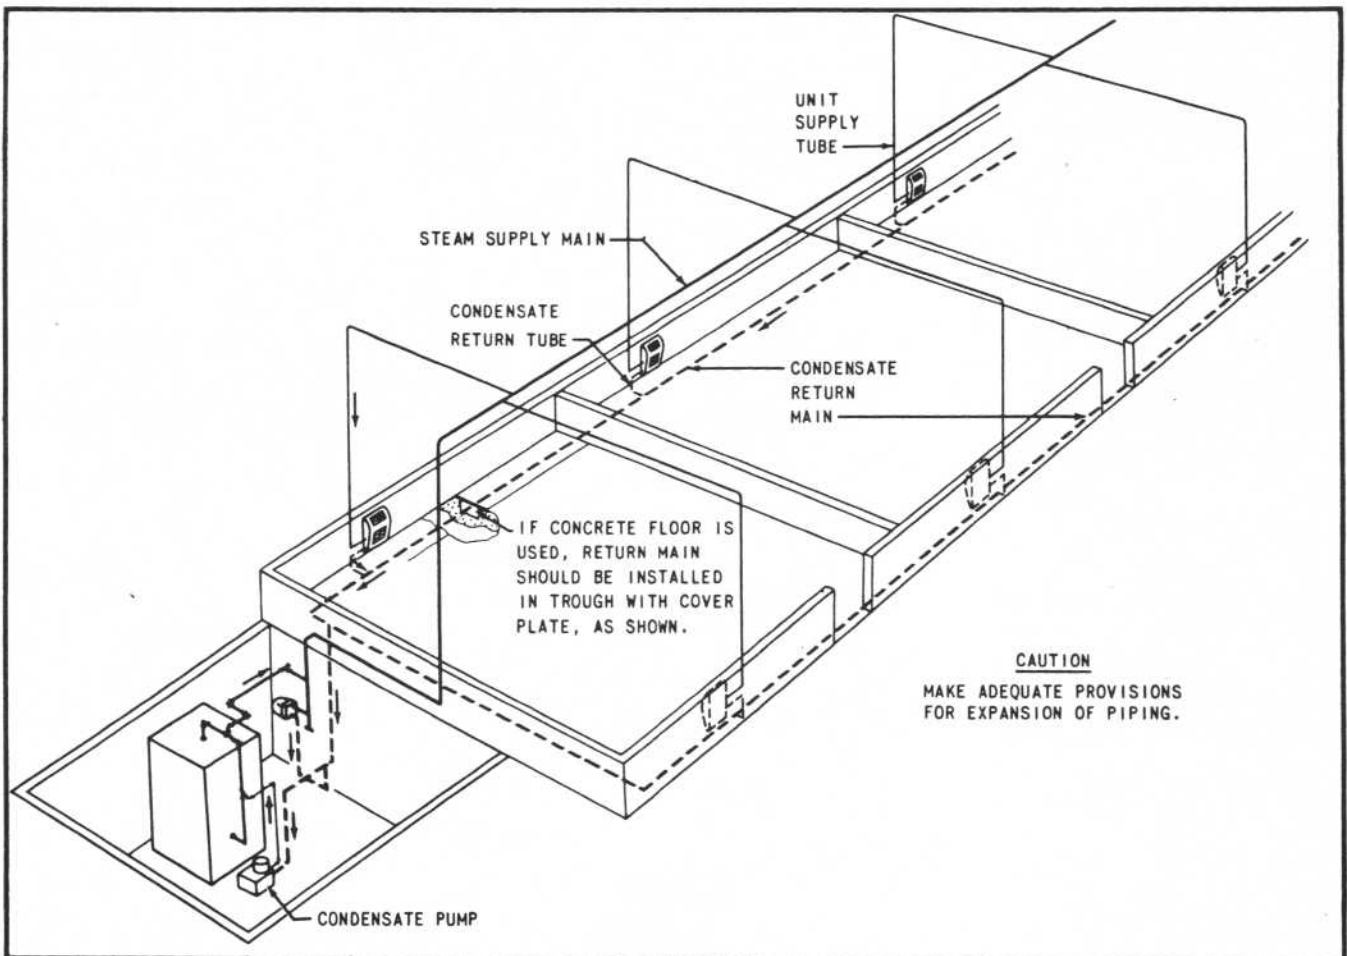

Figure 4 - Central Main System - Down-Feed to Units With Tubing Take-Offs
- d. **CENTRAL MAIN, DOWN-FEED TO UNITS** (Figure 4.) This system can be used with tubing supply lines to outside walls only when the building is very narrow, since otherwise the tubing lengths will be excessive. Pipe runouts from the main and vertical down-feed supply pipes may be used on larger buildings.